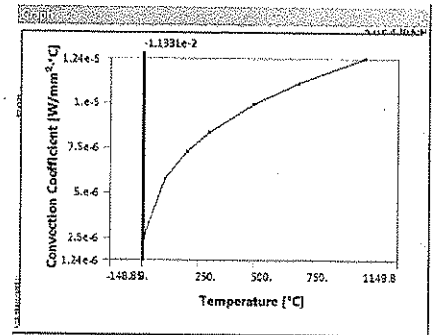

Figure 11-14 The *Graph* window displayed on selecting *Convection* from the *Steady-State Thermal* node in the Tree Outline
- 15. Select **Convection** from the **Steady-State Thermal** node in the Tree Outline; the **Graph** and **Tabular Data** windows are displayed, as shown in Figures 11-14 and 11-15.
Figure 11-14 shows the graph for distribution of Convection Coefficient with respect to Temperature with *Stagnant Air - Horizontal Cyl* considered as the film of the fluid. This graph shows that as the Temperature increases, the Coefficient of Convection also changes.